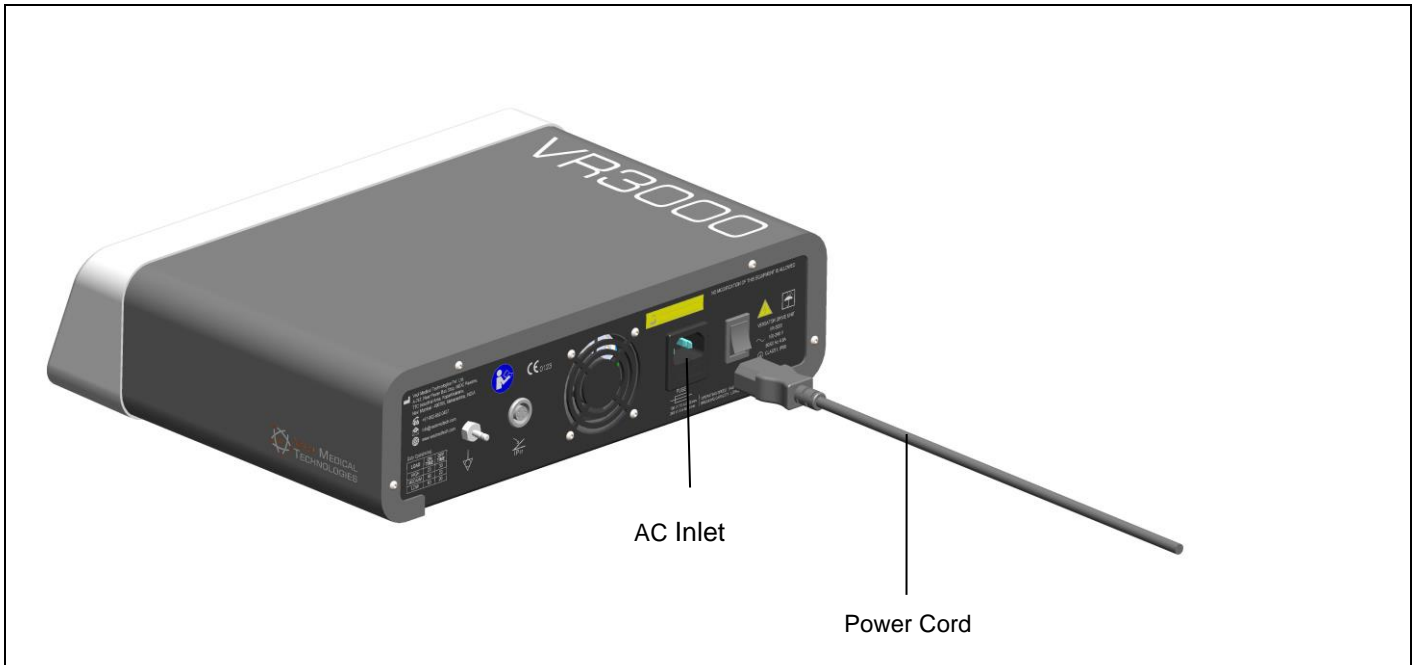

Figure 16: Connecting Power Cord to the VDU
5.2.1.6 Attach the power cord to the back of VERSATOR® VDU (Figure 16). Connect the power cord of VERSATOR® VDU to an AC **Earthed** receptacle.
- 5.2.3.4 Connect the free end of the power cord into the AC inlet that is provided at the back of VERSATOR® VDU (See Figure 16). Connect the other end of the power cord to the 100V-240V AC wall socket.